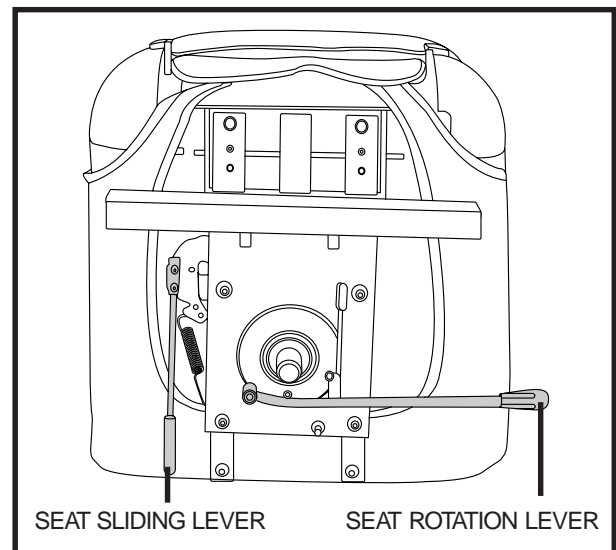

Figure 15. Seat Adjustment Levers
1. Push forward on the seat rotation lever to unlock the seat. See figure 15.
You can reposition the seat forward or rearward to adjust the distance between the seat and the tiller. See figure 15.